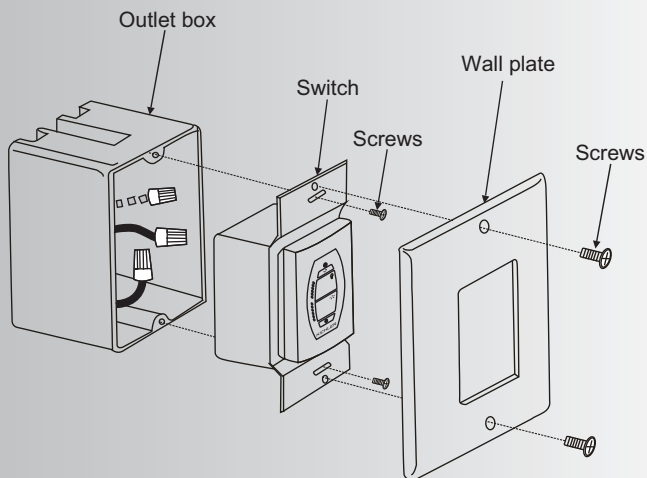

Fig. 20
Step 2. While holding the LED light kit under the fan motor, make the wire connections: (Fig. 20)
Step 2. Install the wall plate on the existing wall outlet box using the screws provided. (Fig. 20)